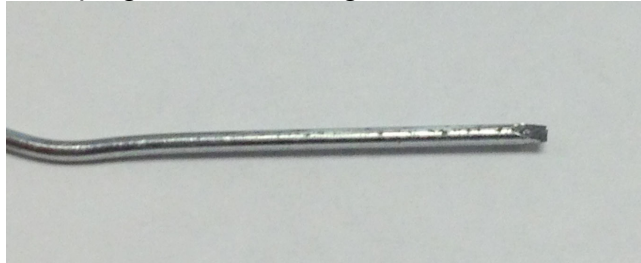

Figure 5: Grind a paper clip like this
3. If the screwdriver does not fit in the area of the plug, a ground paper clip can be used to release the tabs of the plug as shown in figure 5.